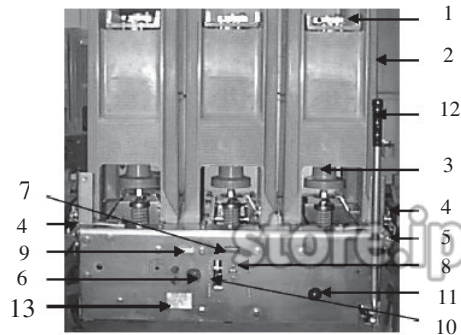

Figure 3 Front view of PowerVac breaker without front cover
The manual charging system (item 3, view A) works directly on the cam shaft where a one-way clutch (item 7, view A), driven by a manual handle, provides rotation of the ratchet wheel. Manual pumping of the handle advances the ratchet wheel and the holding pawl prevents counter-rotation while the handle is returning for another stroke. Approximately eight complete strokes of the manual handle are required for one complete spring-charging operation. When the spring charge indicator (item 9, Figure 3) shows "CHARGED", MANUAL CHARGING MUST BE DISCONTINUED TO AVOID MECHANISM DAMAGE.
To manually slow close the breaker contacts, install the closing spring gag, as described above, and push the manual close button (item 11, Figure 3).